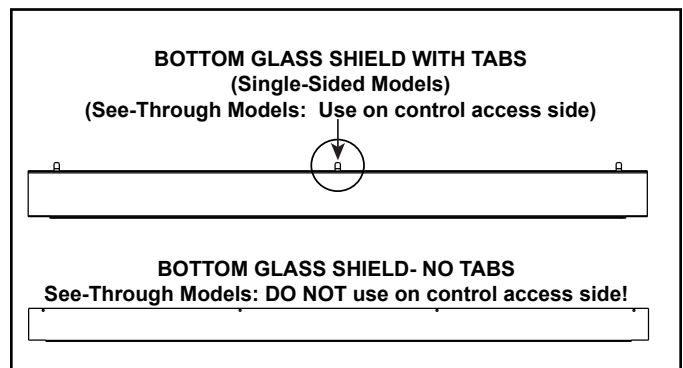

Figure 9. Bottom Glass Shield Differentiation
5. Install the bottom glass shield on the side opposite of the controls. Ensure all screws have been reinstalled. See Table 2 and Figure 9.